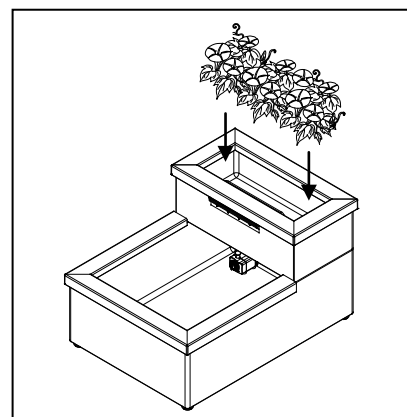

Fig. 12
12. Place plants in the planter basket. Fig. 12